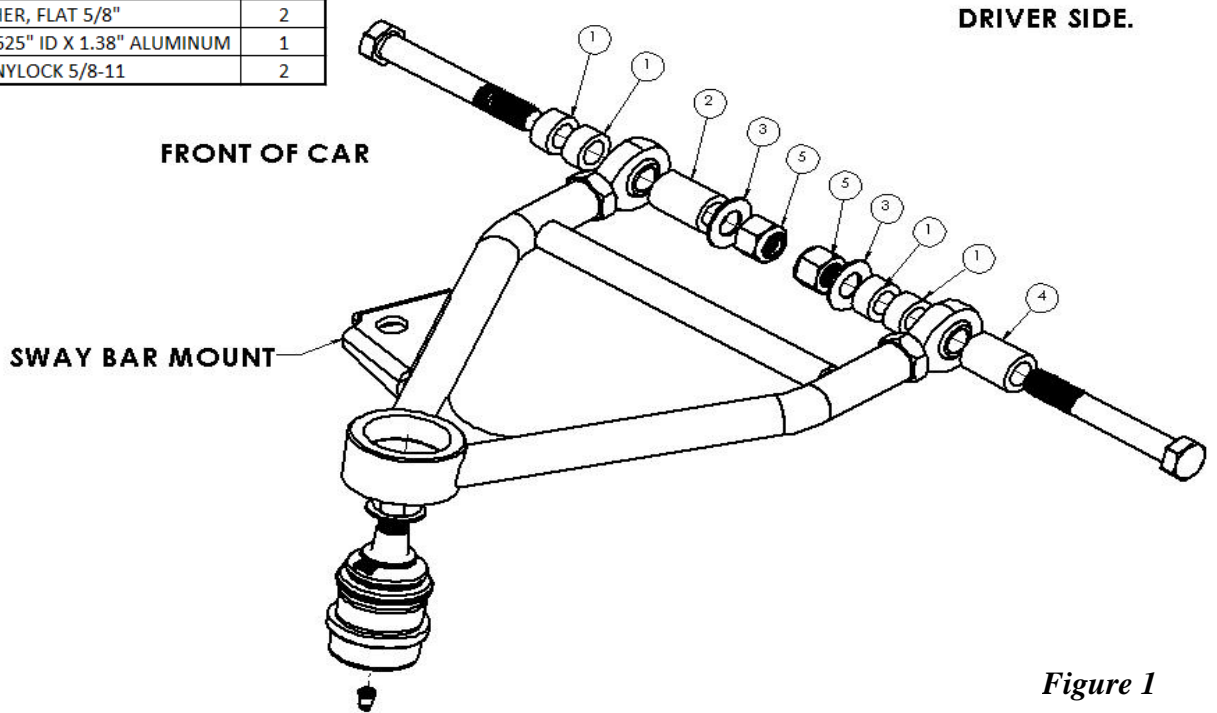

Figure 1
1. Install the control arm into the K-member on each side of the car using the included spacers. Identify the different sized spacers and install as shown in **Figure 1**.